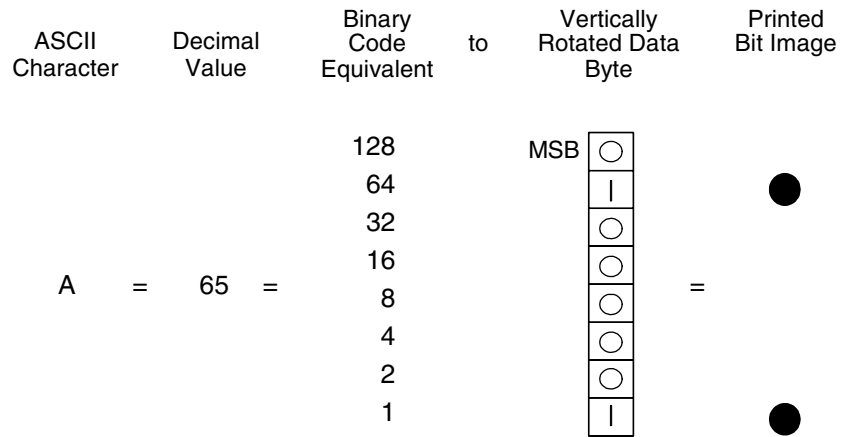
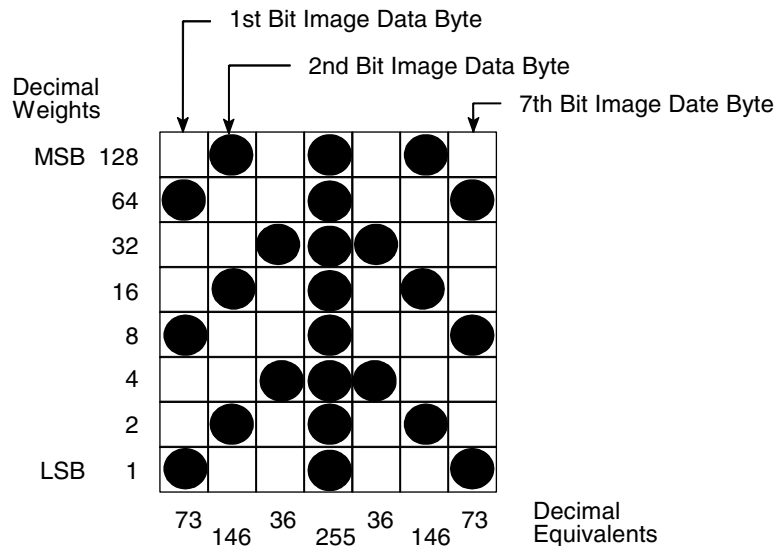

Figure 11. Bit Image Pattern from an ASCII Character
Figure 12. Bit Image Pattern Plan
The relationship between the ASCII character, its decimal value and its bit image plot is shown in Figure 11. All 8 bits of the data byte are used in all fonts, but some fonts have taller and shorter characters. (You may have to adjust the line spacing in order to print without horizontal gaps.) Data bytes are identified by their binary, octal, hexadecimal, or decimal equivalents. These numeric equivalents are combined in data streams to form graphic patterns such as the one illustrated in Figure 12.
1. On a quadrille pad or graph paper, lay out the graphic pattern you want to print. (See Figure 12.)